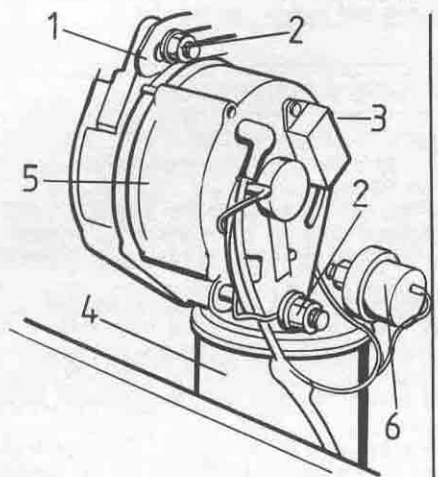

Fig. 10.1 View of alternator with the grille removed (Saloon models) (Sec 7)
- 2 With Saloon models remove the radiator grille, as described in Chapter 12 to get better access to the alternator (Fig. 10.1).